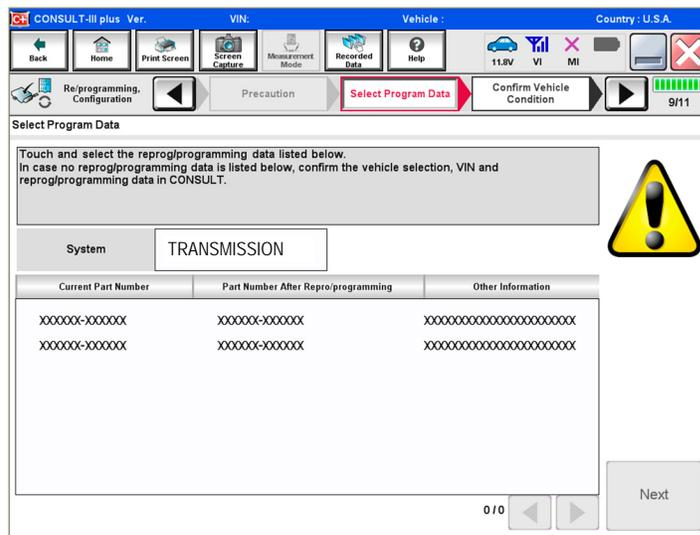

Figure 4
- If more than one new P/N is available, the screen in Figure 4 displays.